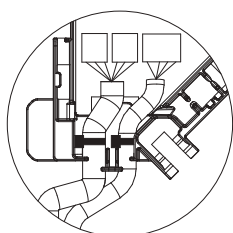

Fig. 5-16
- Make sure that the band securing the i-see Sensor and signal receiver junction wires is positioned inside the connector box. (Fig. 5-16)